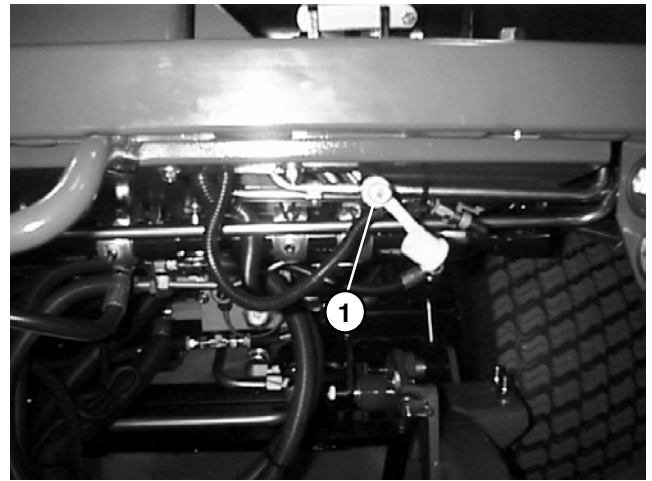

Figure 30
3. Connect a 5000 PSI gauge onto steering circuit pressure test port (Fig. 30).